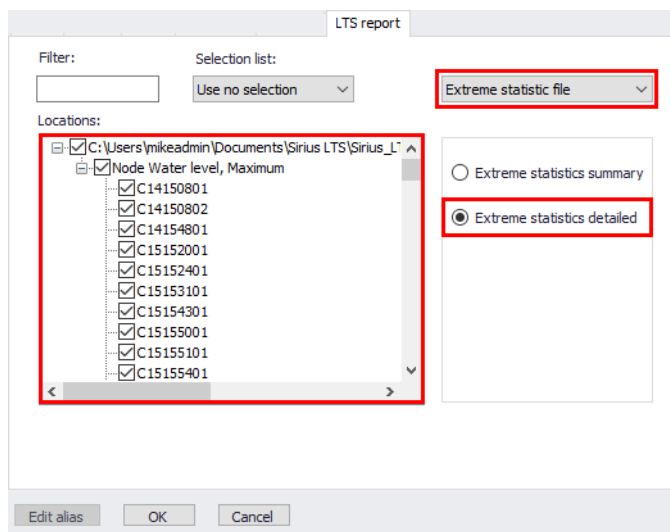

Figure 20.70 Detailed LTS extreme event statistics report configuration
- Access the 'LTS Report' tab on the 'Result Items' dialog (Figure 20.70).
- Choose to generate a report with the 'Extreme statistics file' from the dropdown menu on the upper right side of the page (Figure 20.70).